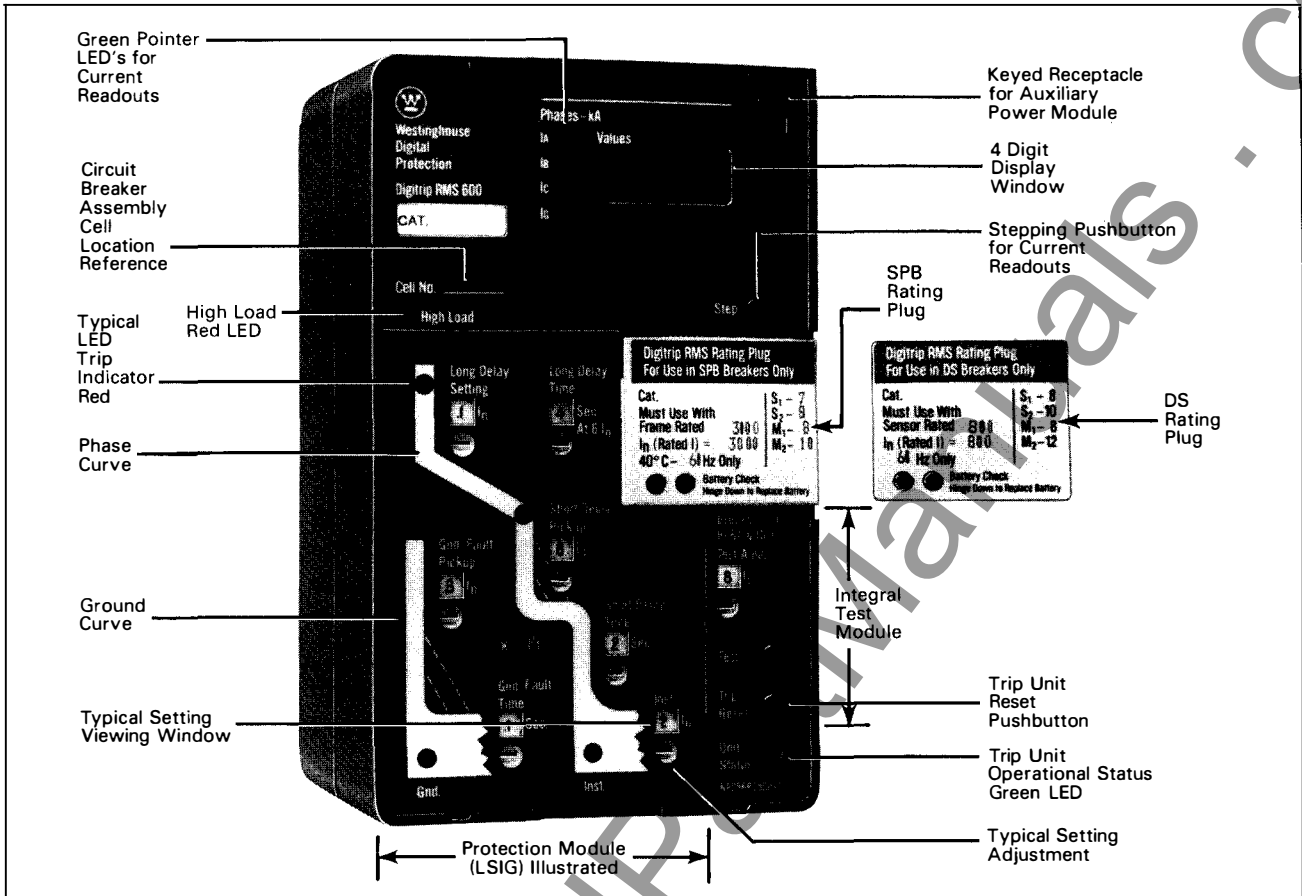

Fig. 1 Typical Digitrip RMS 600 Trip Unit with Rating Plug Installed
The Digitrip RMS 600 Trip Unit, illustrated in Fig. 1, is a micro-processor based type trip unit suitable for use in type SPB Systems Pow-R circuit breakers and types DS and DSL low voltage AC power circuit breakers and Series C® R-Frame molded case circuit breaker.
In addition to the protection function, the Digitrip RMS 600 Trip Unit is equipped with a four-digit, alpha-numeric readout display, three phase and one ground (when supplied) current pointer green LEDs along with a stepping pushbutton as illustrated in Figs. 1 and 2. A Power/Relay module is included to provide control power for operating the readout display and internally mounted signal relays. The signal relays provide contacts for three remote mode of trip indicators (long delay, short circuit, ground fault) and a High-Load remote alarm.
The Digitrip RMS 600 Trip Unit provides three basic functions: Protection, Information and Testing. A typical trip unit and rating plug are illustrated in Fig. 1. Individual product instruction leaflets referenced in Sections 9.1 and 9.2 illustrate typical Digitrip RMS Trip Units installed in specific breakers.
Red colored LEDs, as shown in Figs. 1 and 2, also indicate on the face of the trip unit the mode of trip of any automatic trip operation. As indicated in Fig. 2, each LED is strategically located in the related segment of the Time-Current curve depicted on the face of the trip unit. The mode of trip is identified by the segment of the Time-Current curve in which the LED is turned "On".
A green colored battery check, LED and test pushbutton, as shown in Figs. 1 and 5, are provided to check the status of the battery.
A green colored LED, as shown in Fig. 1, indicates the operational status of the trip unit. With external control power available at the Power/Relay module (or via the external Auxiliary Power module during bench testing operations), the green LED will flash "On" and "Off" once each second. A flashing green LED is an indication of a properly operating trip unit.
A red colored LED, as shown in Fig. 1, indicates that the load current through the circuit breaker has reached 85% of the preset value of the Long Delay Setting. The High-Load LED will turn "On" and the High-Load relay, located internally in the Power/Relay module shown in Fig. 4, will pick-up after an approximate 40 second delay. This delay allows the alarm to ride-through a momentary high-load condition thus avoiding nuisance alarms.
The four-digit alpha-numeric readout display window, illustrated in Figs. 1 and 2, serves two basic purposes: instrumentation and mode of trip or trouble indication.
Normal service messages are those that serve the ammeter instrumentation function. In Fig. 1, four green colored LEDs serve a pointer function, i.e., phase A current (I_A), phase B current (I_B), phase C current (I_C) and ground current (I_G). The ground current LED will be included only if integral ground fault protection is included as an integral part of the trip unit protections functions.
1. The Long Delay Trip LED will turn "On" (see Fig. 1)
2. The coded message LDT will appear in the Display Window (see Fig. 1)
2. Depress Stepping Pushbutton twice (see Fig. 1). This action will clear the coded cause of trip message in the Display Window.
3. View value of phase current in Display Window (see Fig. 1) e.g., 1.50 (in kA).
Note: The phase current shown will be that referenced by the Pointer LED (see Fig. 1) that is turned "On," assume "IA". (It may not be the faulted phase).
5. Reset the trip unit by depressing the "Trip Reset" pushbutton (see Fig. 1). All coded messages and current values in the display window, the cause of trip LED and the signal relay in the Power/Relay module will turn "Off".
1. The "High-Load" LED (Fig. 1) would have been turned "On" if the overload condition had existed for 40 seconds or longer.